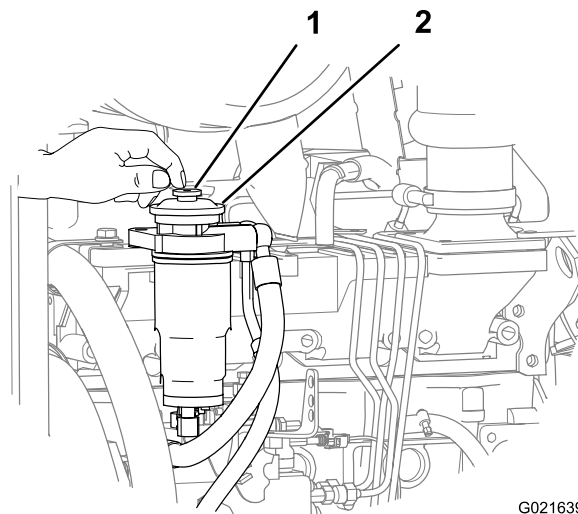

Figure 54
4. Locate the priming button on the top of the filter adapter for the secondary fuel filter (Figure 54).
5. Press down and release the priming button repeatedly until you feel resistance (Figure 54).